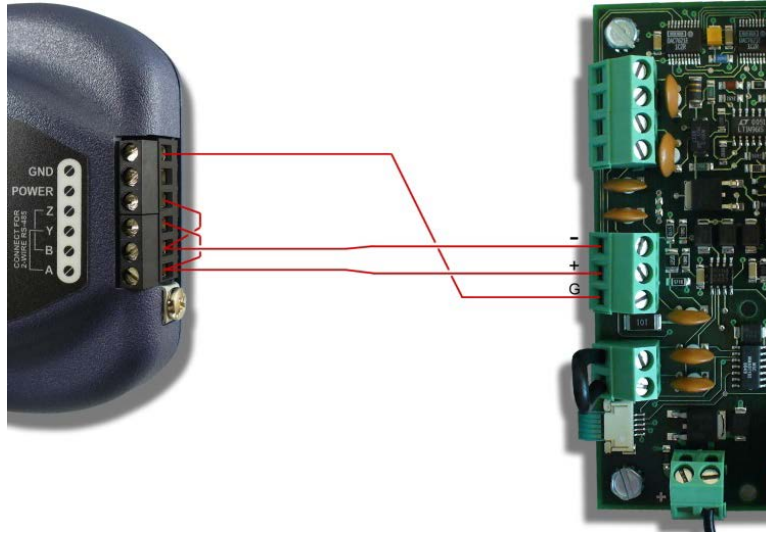
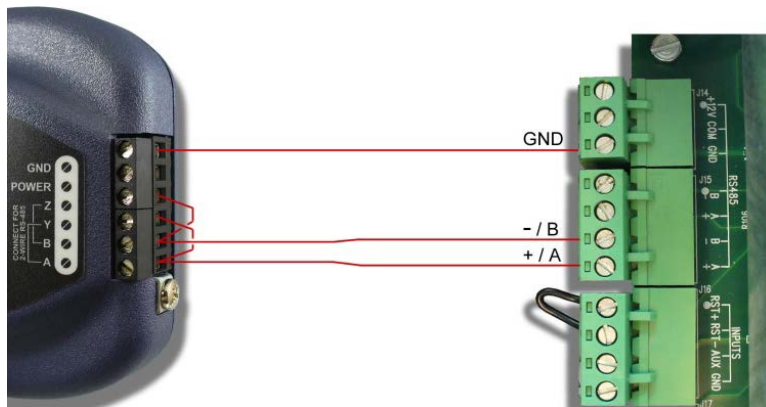

Figure 1: Chillgard LC/LE to RS-485 Port Connections
Figure 2: Chillgard RT/Chemgard to RS-485 Port Connections
- Connect the MSA equipment to the gateway's RS-485 port by using twisted-pair cable connected as shown in Figure 1 and Figure 2. Connect the "+" ("*RS-485 To Optional Relay Module*" terminal block for LC and LE) or "+ / A" (J15 terminal 2 or 4 for RT and Chemgard) terminal of the MSA equipment to terminal "A" of the gateway, the "-" ("*RS-485 To Optional Relay Module*" terminal block for LC and LE) or "- / B" (J15 terminal 1 or 3 for RT and Chemgard) terminal to terminal "B", and the ground terminal "G" ("*RS-485 To Optional Relay Module*" terminal block for LC and LE) or "GND" (J14 terminal 3 for RT and Chemgard) terminal to terminal "GND". Also install jumper wires connecting terminal "A" to terminal "Y", and terminal "B" to terminal "Z" on the gateway.